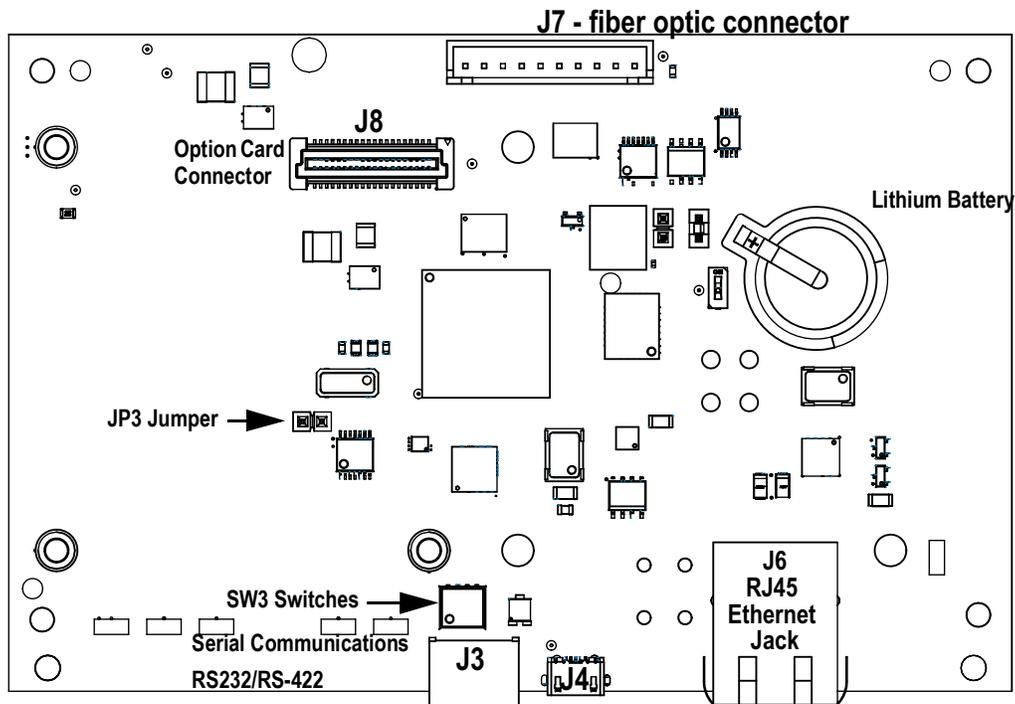

Figure 2-3. IO Module Board
*For RS-232, all four switches on the IO Module CPU board - SW3, must be in the off position (Figure 2-3 on page 5).*
*For RS-422, all four switches on the IO Module - SW3, must be in the on position (Figure 2-3 on page 5).*
The 882IS IO Module is equipped with a duplex fiber optic port for communicating with an 882IS or 882IS Plus located in the safe or hazardous area. It provides electrical isolation and eliminates the use of IO barriers commonly used in intrinsically safe systems. The optical fibers are plastic and the terminate ends must be properly polished prior to installation. Refer to POF Polishing kit (PN 197384), for complete instructions on polishing the fiber-optic ends. See Figure 2-3 on page 5 for the location of the fiber optic connector in the 882IS IO Module.
The lithium battery on the 882IS IO Module board maintains the real-time clock when it is not connected to AC power. See Figure 2-3 on page 5 for battery location and orientation (positive side up).